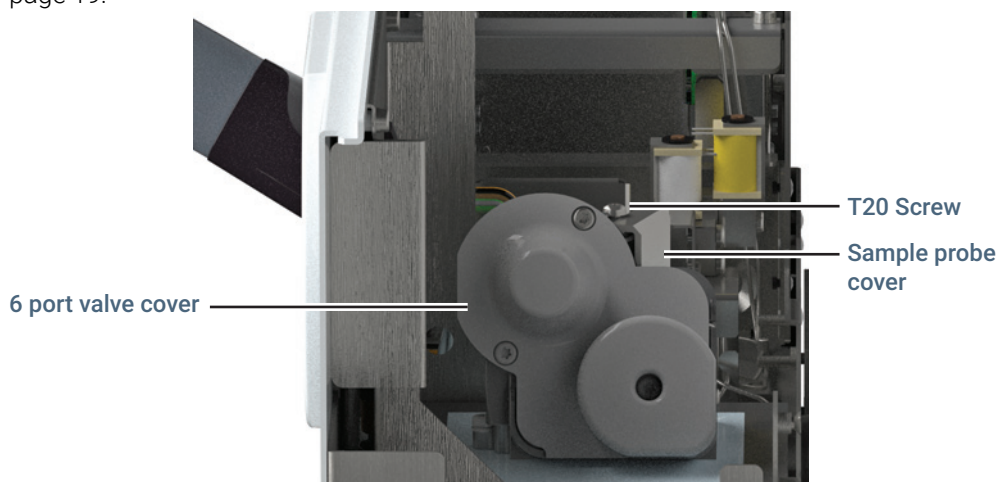

Figure 17. The valve and sample probe covers
- 5 Remove the valve/loop cover (**Figure 17**). See **"Remove the Valve/Loop Cover"** on page 19.